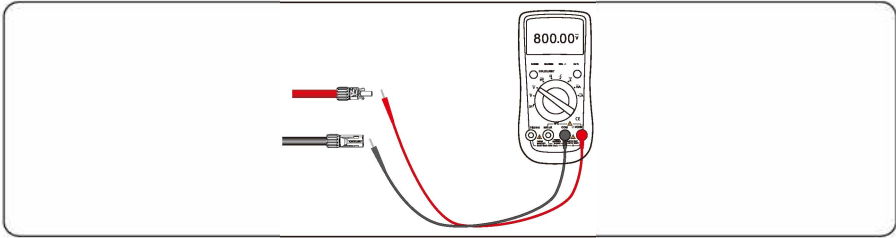

Figure 5.15 Checking the voltage of every route Strings
Step 5 Measure the voltage of every route Strings using a multimeter. Ensure that the polarities of the DC input power cables are correct, as shown in Figure 5.15.